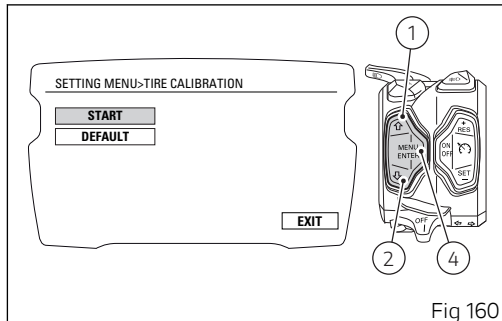

Fig 160
As you enter this function, the instrument panel displays the following indications (Fig 160):
To reset to the default settings, use buttons (1) and (2) to select "DEFAULT" (Fig 160) and press button (4).